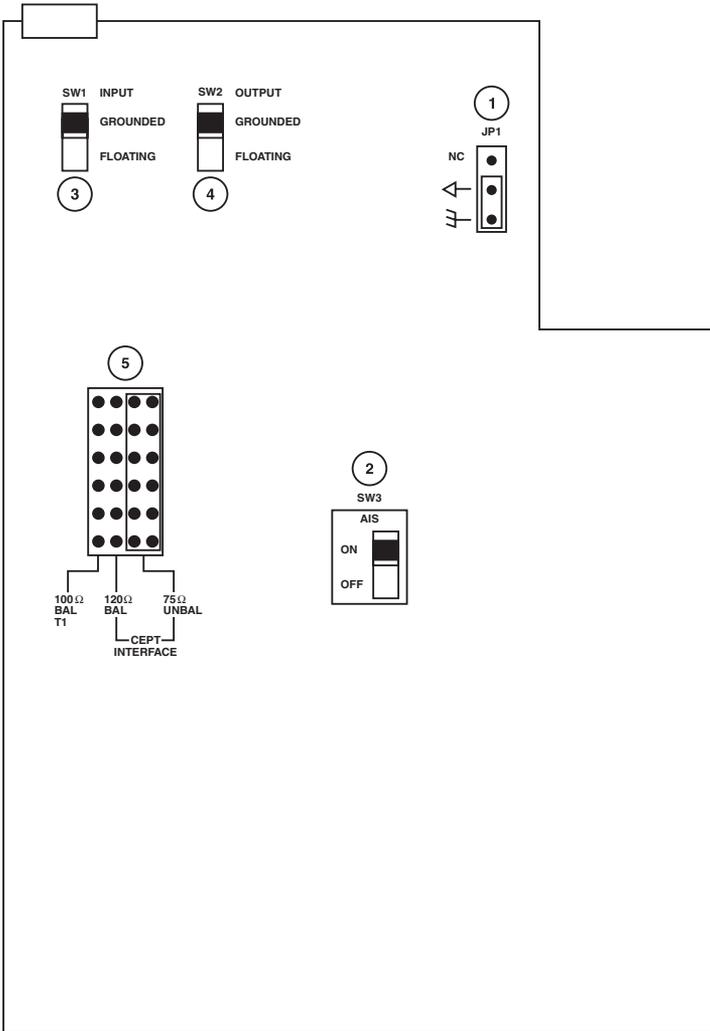

Figure 3-1. Locations of internal controls.
3. Consult Figure 3-1 on the next page and **Sections 3.2.1** through **3.2.4** to identify the FOLD's board-mounted configuration controls and move them to your desired positions.
- ① See **Section 3.2.1.**
- ② See **Section 3.2.2.**
- ③, ④ See **Section 3.2.3.**
- ⑤ See **Section 3.2.4.**
Depending on how you set jumper JP1 (item 1 in Figure 3-1), the FOLD connects (“*h*”) or disconnects (“N.C.”) its chassis ground from T1/E1 signal ground. The factory-default setting is for the two grounds to be connected.
When the AIS DIP switch SW3 (item 2 in Figure 3-1) is set to ON (the default setting), the FOLD sends an “all ones signal” (AIS) across the fiberoptic link if it detects either (a) low or no signal on its T1/E1 interface or (b) high error rates on its fiberoptic interface. This signal will cause the remote FOLD to light its OPTICAL AIS LED, alerting operators there of the problem at the other site. If you don’t want the FOLD to send this signal across the fiber link, move this switch to the OFF setting.
If you will be using the FOLD’s balanced T1 or E1 interface, keep Input and Output DIP switches SW1 and SW2 (items 3 and 4 in Figure 3-1) both set to their factory-default “Floating” setting. (In this setting, the shields of the IN and OUT BNC connectors on the rear panel are isolated from the FOLD’s chassis ground.) If you will be using the FOLD’s unbalanced E1 interface, move both of these switches to the “Grounded” setting to connect the BNC shields to the FOLD’s chassis ground.
Move the jumper on the interface-type jumper block (item 5 in Figure 3-1) as necessary to select one of the FOLD’s three interface options: